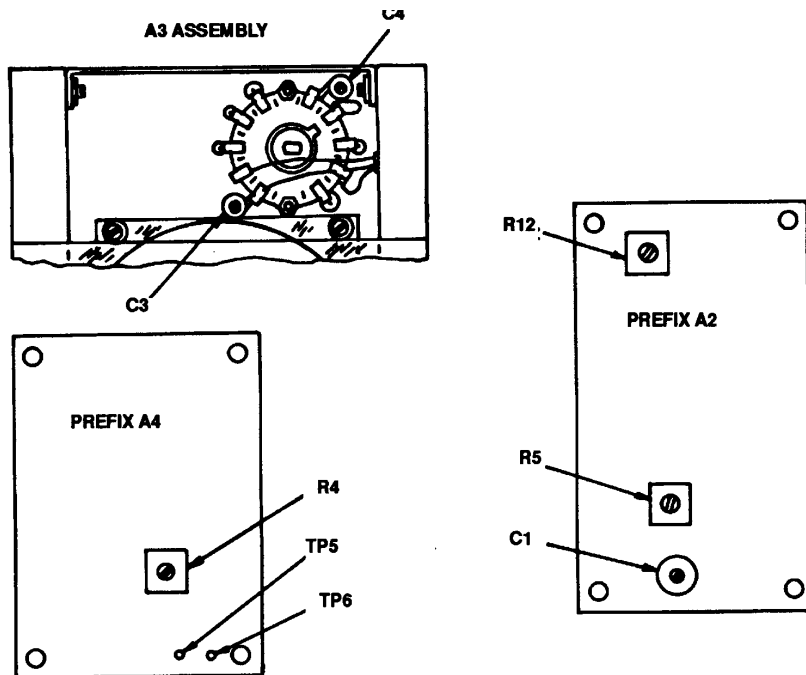

Figure 2. AN/URM-127A - adjustments
(5) Adjust A2R5 (fig. 2) until audio analyzer indicates 12.0 V ac (R).
(6) Adjust **OUTPUT CONTROL** until audio analyzer indicates 10.0 V ac.
(7) Adjust A2R12 (fig. 2) until **VOLTS RMS** meter indicates **1.0** (R).
(19) Set frequency dial to **200**.
(20) Adjust A3C3 and A3C4 (fig. 2) until audio analyzer indicates 20.000 kHz and **VOLTS RMS** meter indicates at least 1.0 (R).
(21) Repeat (16) through (20) above for best in-tolerance condition.
(22) Repeat **a**(4) and if audio analyzer does not indicate within limits specified, perform (23) through (26) below.
(23) Set **FREQ RANGE MULTIPLIER** switch to **X1K** and frequency dial to **200**.
(24) Adjust A2C1 (fig. 2) until audio analyzer indicates 200.00 kHz (R).
(25) If **VOLTS RMS** meter indicates more than 1.2, adjust A2R5 (fig. 2) for 1.2 indication on **VOLTS RMS** meter (R).
(26) Repeat **a**(1) through (4) and, if required, (16) through (25) above for best intolerance condition.